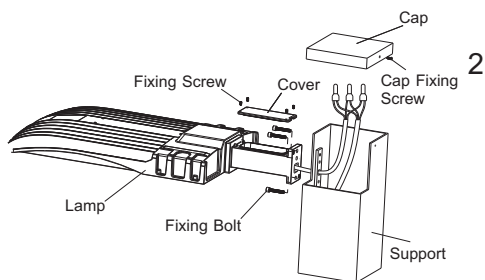

figure 3
1. Loosen cap fixing screw and take cap off. Loosen fixing bolt, fixed the fixture on the support and tighten fixing bolts. (figure 3)
2. Correctly connecting the wire and fasten cap fixing screw and fixing screw. (figure 3)